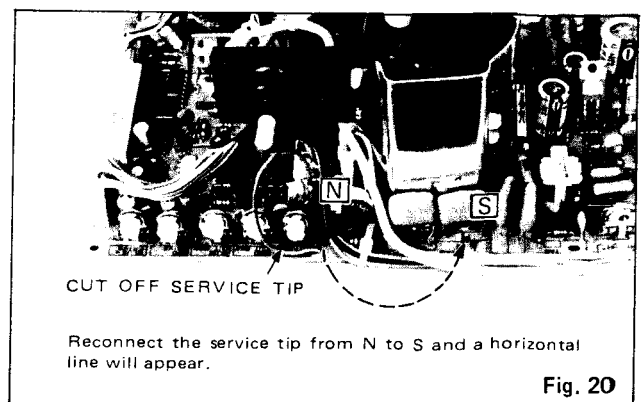

Fig. 20
4. Change the service tip as shown in Fig. 20.
8. Return the service tip to normal position. (Fig. 20.)